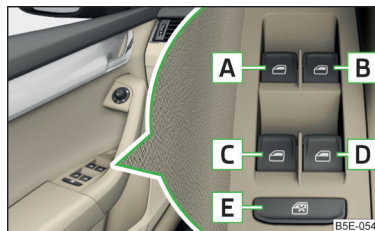

Fig. 43
- After switching the ignition off, it is still possible to open or close the windows for approx. 10 minutes. After the driver's or front passenger's door has been opened, the windows can only be operated by using button **A** » Fig. 43 on page 64.
Power window buttons » Fig. 43
► Press button **E** » Fig. 43.
- › Hold button  » Fig. 43 on page 64 in the opening position.
- › Hold button  » Fig. 43 on page 64 in the closing position.